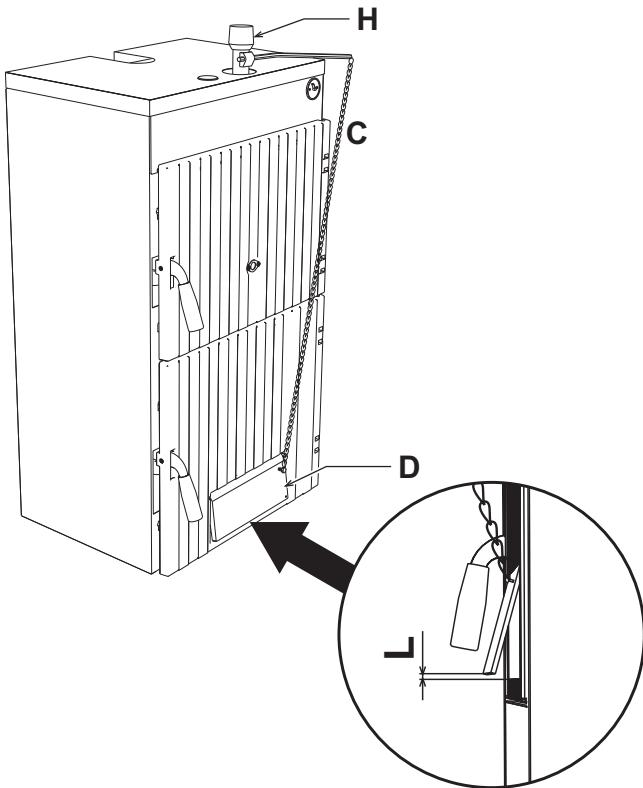

fig. 2 - Installation
2. Fit the thermostatic regulator "H" fig. 2.
4. Adjust the air inlet door adjustment screw so that with the door touching there is in any case an air passage of approx. 1 - 2 mm (max.). With boiler cold, set the control thermostat to 60°C. Hook the chain "C" to the special air inlet door eyelet "D", adjusting its length so that the air passage "L" (fig. 2) is approx. 15 mm for "coke III" and 2 mm for "wood".
Adjust the air inlet door adjustment screw so that in any case there remains an air passage of not more than 1 - 2 mm. With the boiler cold, set the thermostat to 60°. Hook the chain "C" to the special air inlet door eyelet, adjusting its length so that the air passage "L" (fig. 2) is approx. 15 mm for "coke III" and 2 mm for "wood".